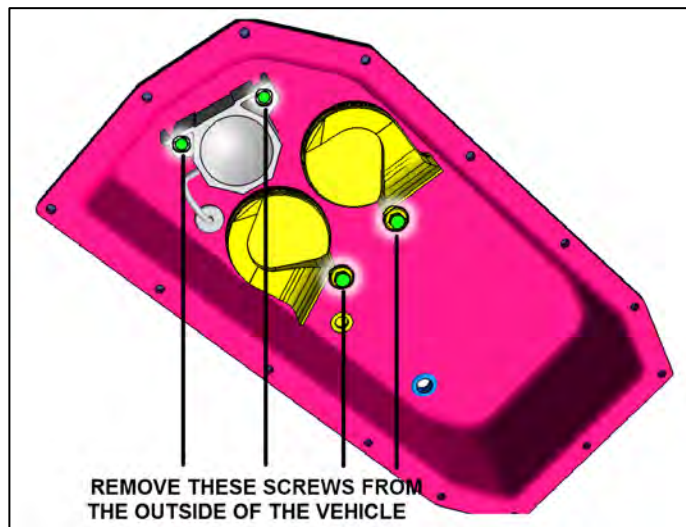

Figure 3
2. Under the front of the vehicle, curb side, remove the four retaining screws in the buzzer/horn cavity. Keep hardware for re-use. (fig. 3)